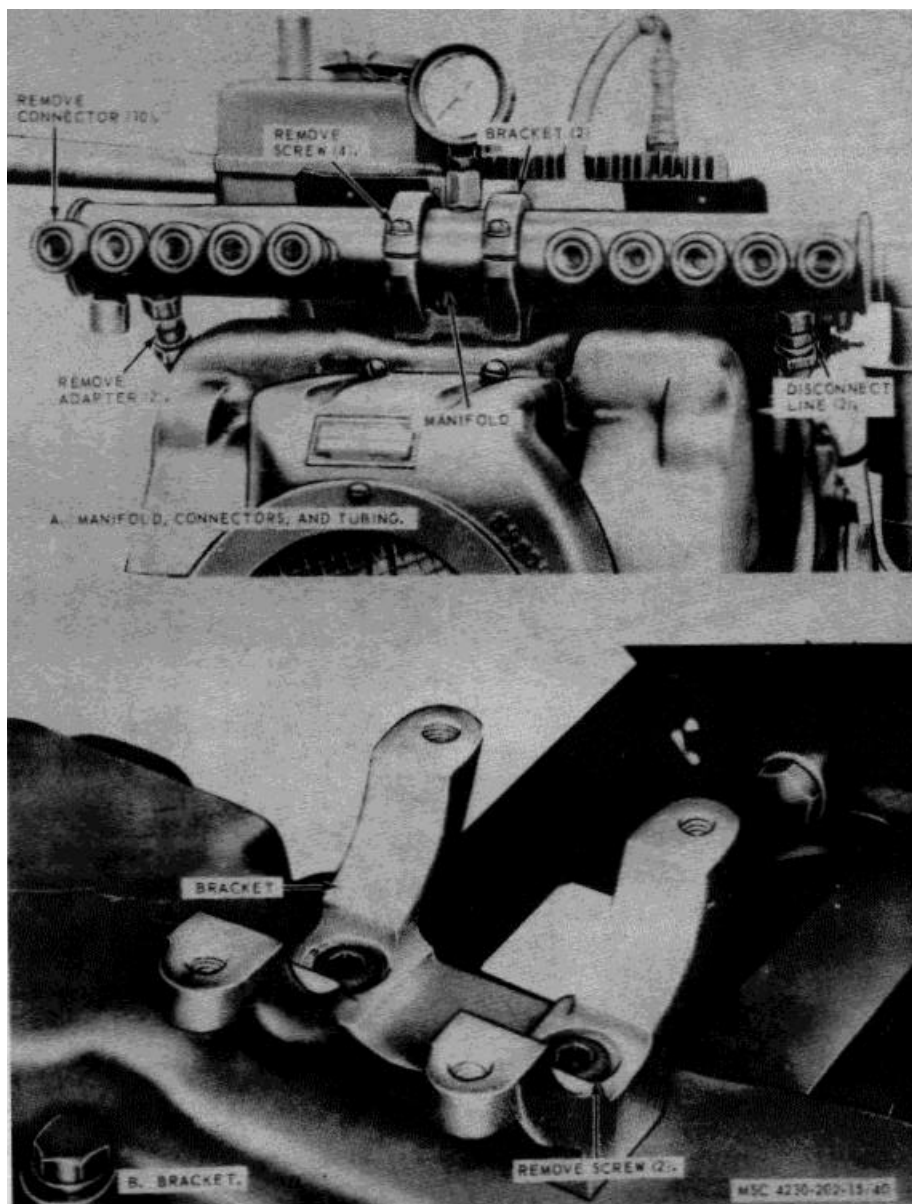

Figure 3-33. Manifold, clamps, bracket, tubing and connectors, removal and installation
- (1) Remove the pop-off relief valves (para 3-53).
- (2) Remove the air pressure gage (para 3-63).
- (3) Refer to figure 3-33 and remove the manifold, clamps, bracket, tubing and connectors.
- (1) Refer to figure 3-33 and install the manifold, clamps, bracket, tubing and connectors.
- (2) Install the air pressure gage (para 3-63).
- (3) Install the pop-off relief valves (para 3-53).